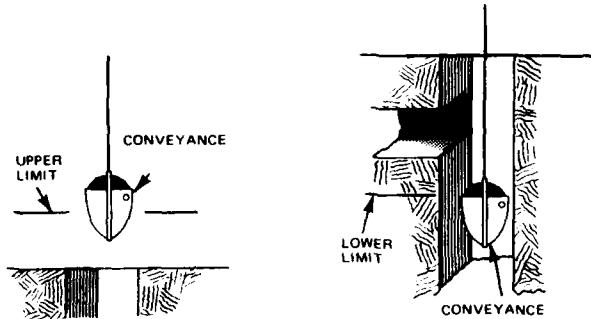

Figure 2
- Overtravel (top and bottom). To return the conveyance to the operating area, the hoist operator will: (See Figure 2)